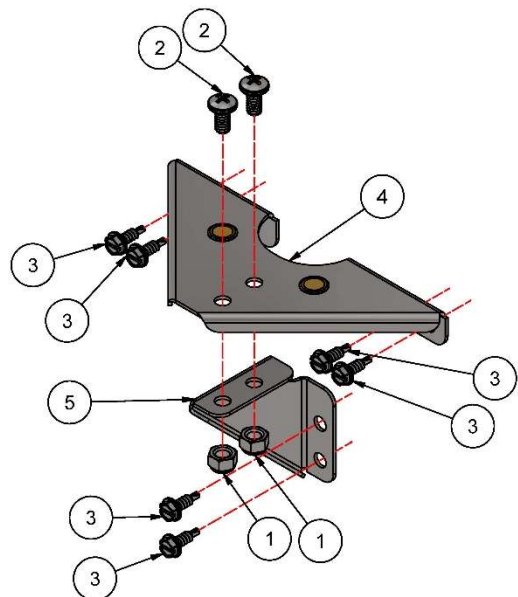

Figure 16
5. For kennels deeper than eight-foot, an additional gusset is required at the side panel connection point. This gusset may or may not be preassembled from the factory. To assemble see Figure 16.